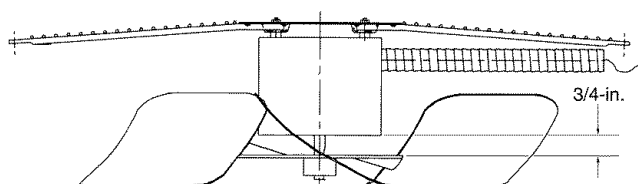

Fig. 35 — Condenser-Fan Adjustment
Condenser-Fan Adjustment (Fig. 35)
3. Adjust fan height as shown in Fig. 35.